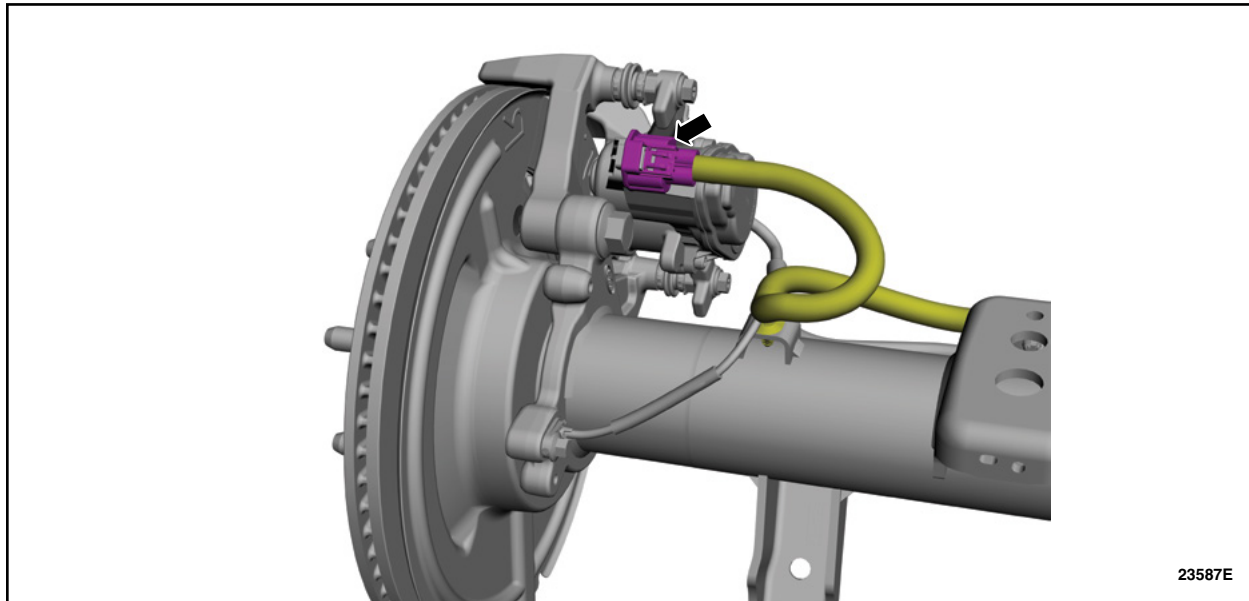

FIGURE 1
5. On both sides, disconnect the Electric Parking Brake (EPB) actuator motor electrical connector and position aside the wiring harness. See Figure 1.
11. On both sides, position back the wiring harness and connect the Electric Parking Brake (EPB) actuator motor electrical connector. See Figure 1.